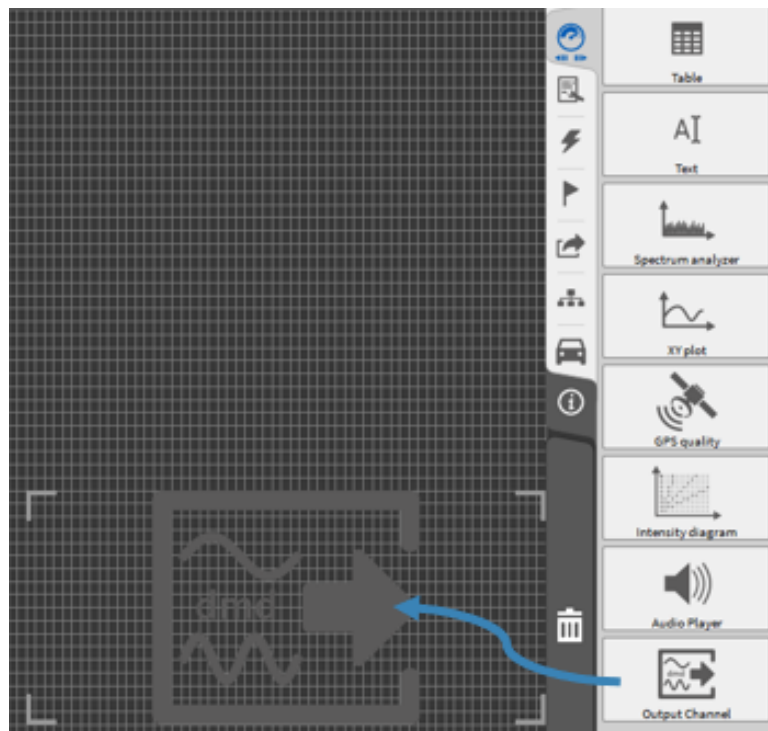

Fig. 4.13: Use Stream Output Instrument on the measurement screen
- To replay channels of a previously recorded OXYGEN file, go to your measurement screen and open the small Instrument menu. A separate instrument exists for loading the data file and choosing the channels to be output/restreamed. As seen in Fig. 4.13, drag and drop the instrument on your measurement screen, adjust the size and place it to a desired location.